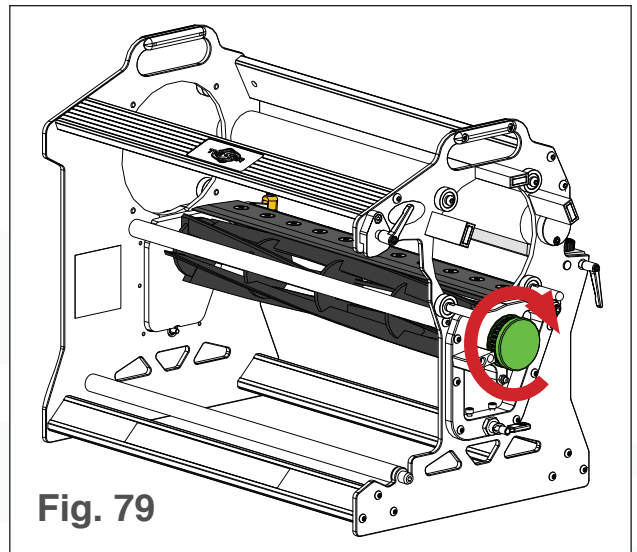

Fig. 79
8. Once the blade and bed knife are parallel with a paper-thick gap, rotate the blade pulley to spin the blade (see Fig. 79). There should be no resistance between the blade and the bed knife.